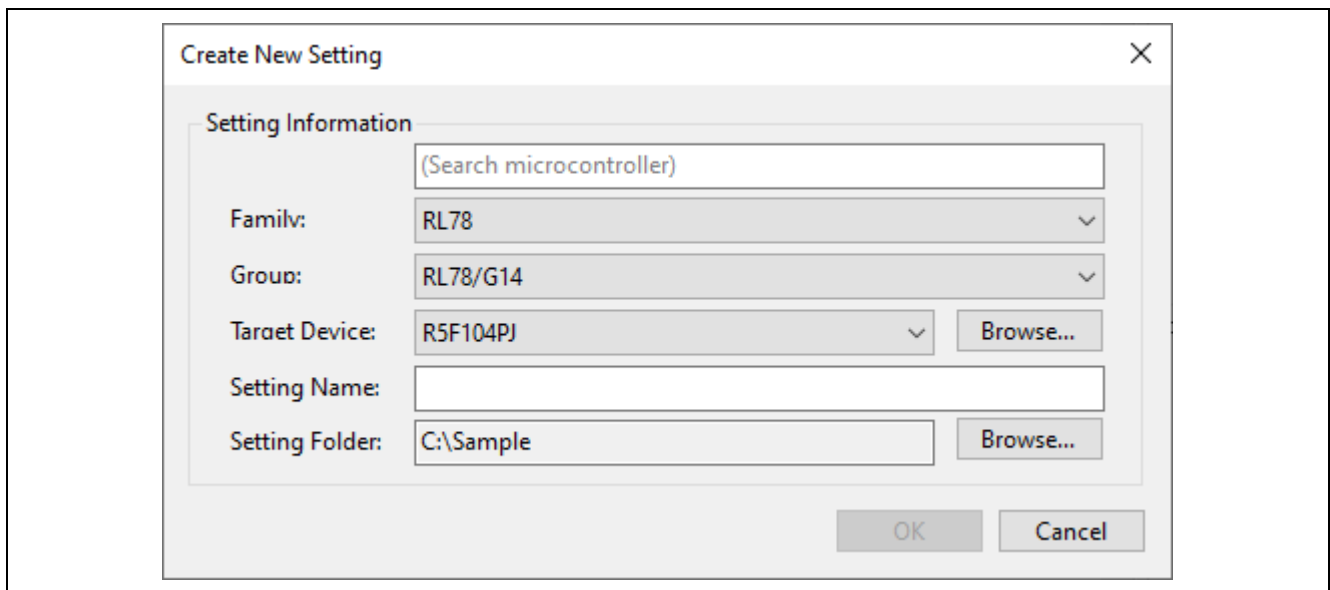

Figure 4.29 [Create New Setting] Dialog Box
2. Create a new setting file. Select the family, group, and type name of the target device, and enter a setting name as shown in Figure 4.29, and click on the [OK] button.